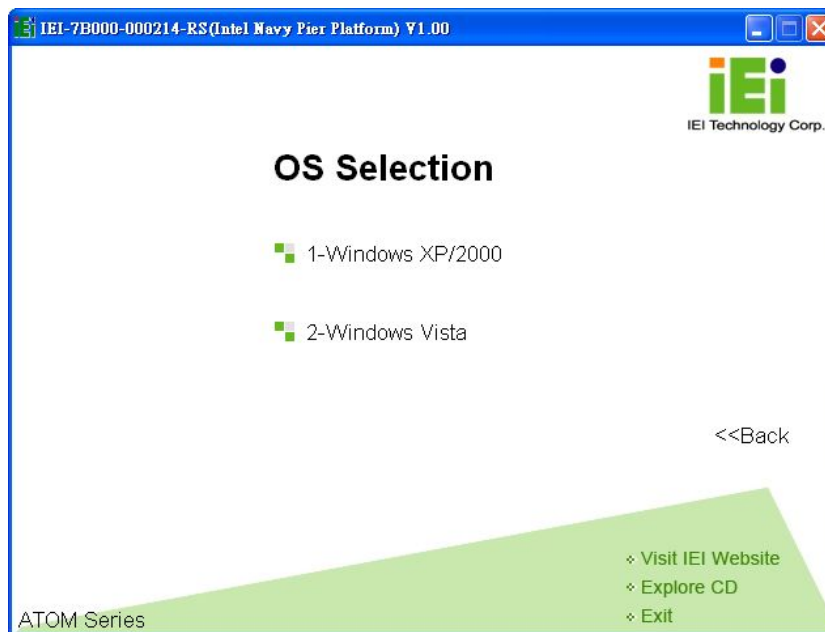

Figure 6-2: Select Operating System
Step 4: The screen in **Figure 6-2** appears.